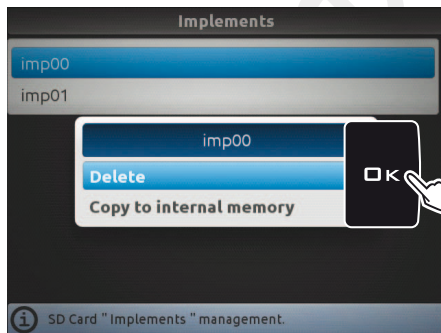

Fig. 281
- Select **Delete** (Fig. 281) and press **OK**.